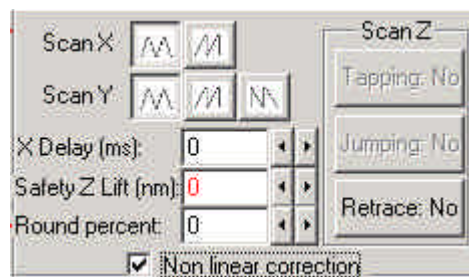

Figure 5
2. Check non-linear correction in the “Scan options” dialog bar and scan your linearized images (Figure 5).